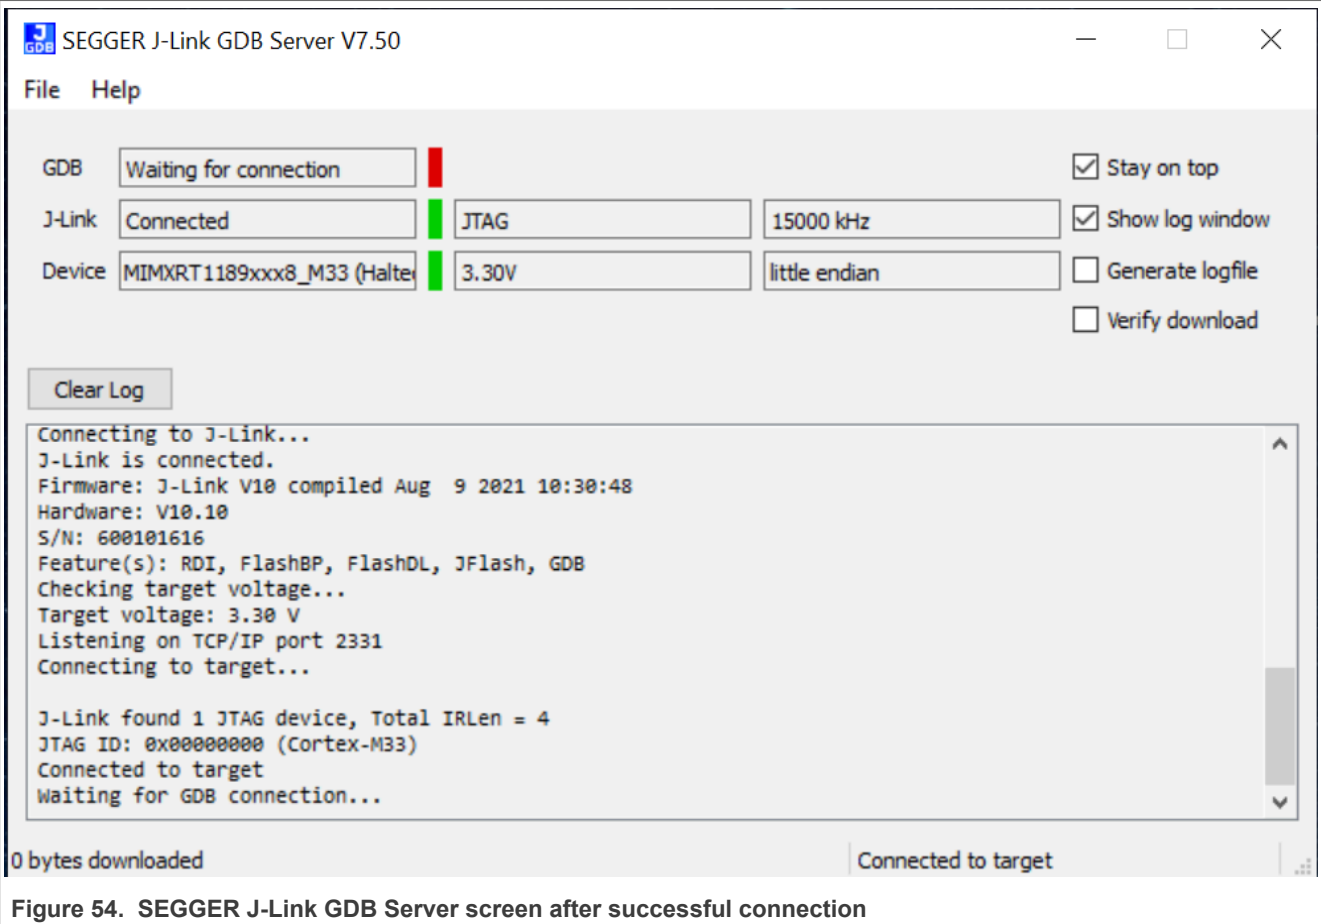

Figure 54. SEGGER J-Link GDB Server screen after successful connection
5. After it is connected, the screen should resemble Figure 54.